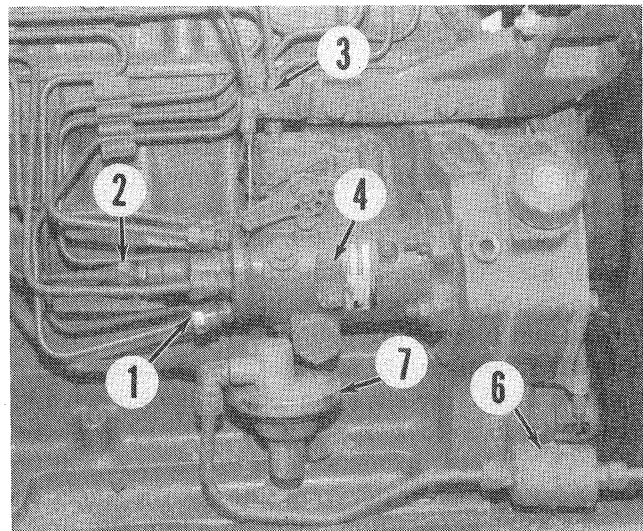
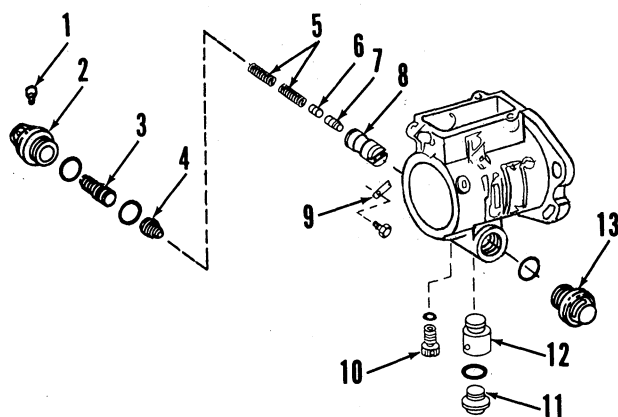

Fig. 74—View of Roosa Master DM4 injection pump used on Model 4050.
Fig. 76—On Model 4050, injection pump advance timing is adjusted by turning trimmer screw (3) located on side of pump housing. Refer to text.
On Model 4050, actuate primer lever on fuel transfer pump (7—Fig. 74) until fuel flows from bleed plug opening.
65. The diaphragm type fuel pump (7—Fig. 74) is mounted on the right side of the engine block and is driven by the camshaft. Normal operating pressure is 3.5-4.5 psi (24-31 kPa). This type of pump is available as a unit only.
Disconnect speed control linkage and fuel shut-off cable. Shut off fuel supply, then remove injector lines, fuel transfer pump (7—Fig.74), fuel inlet pipe (2) and fuel leak-off pipe (3). Plug all openings to prevent entry of dirt. Remove cover (4) from pump timing window. Rotate crankshaft until number 1 piston is at TDC and timing mark on pump governor weight retainer (Fig. 75) is aligned with timing mark on cam ring. Remove inspection cover from timing gear cover, then remove cap screws securing pump drive gear to drive hub. Remove pump mounting stud nuts and withdraw injection pump from engine.
68. STATIC TIMING. To check injection pump static timing, shut off fuel supply, and remove pump timing window cover (4—Fig. 74). Note that some fuel will drain out of pump when cover is removed. Rotate crankshaft in normal direction until number 1 piston is at TDC on compression stroke and JDE-81-4 timing pin engages timing hole in flywheel. Pump timing is correct if timing mark on cam ring (Fig. 75) is aligned with mark on governor weight retainer.
Shut off fuel supply and remove pump timing window cover (4—Fig. 74). Install special timing window cover number 19918. Each mark on timing window is 2 degrees. With engine at normal operating temperature, check advance timing at 2100 rpm under full-load. Total advance should be 8-1/2 to 9-1/2 degrees. To adjust advance timing, remove Allen head set screw from trimmer screw (3—Fig. 76) located on